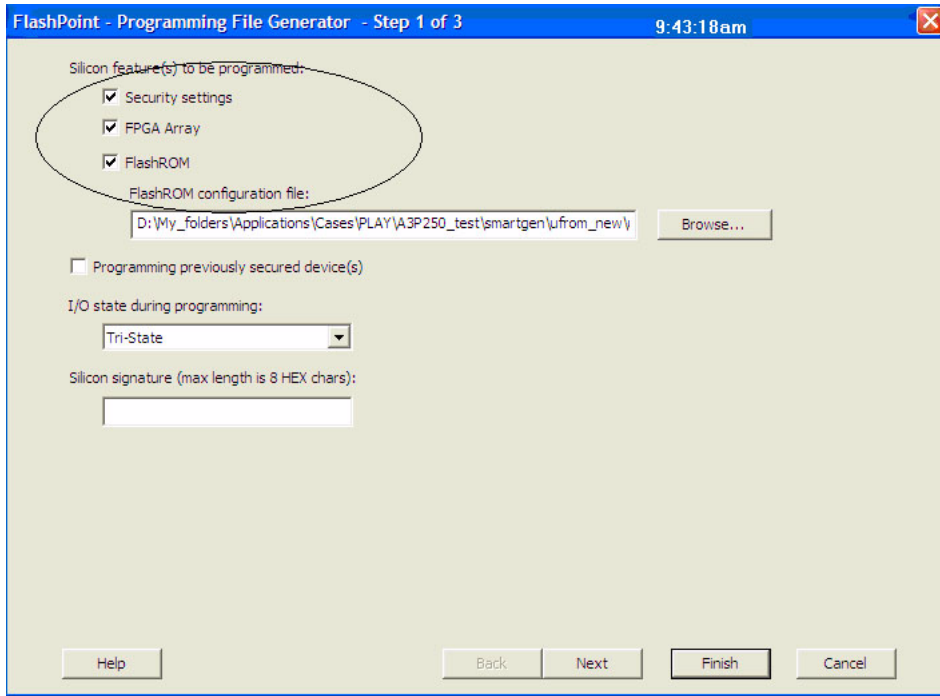
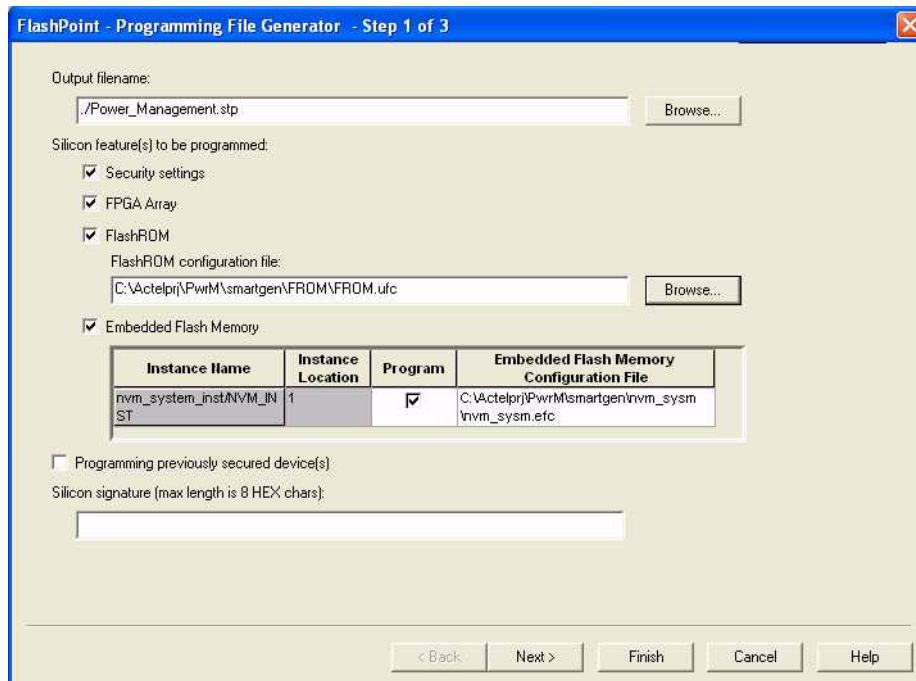

Figure 15-10 • All Silicon Features Selected for IGLOO and ProASIC3 Devices
Figure 15-11 • All Silicon Features Selected for Fusion
1. Select the **Silicon features to be programmed** (Security Settings, FPGA Array, FlashROM, Flash Memory Blocks), as shown in Figure 15-10 on page 15-14 and Figure 15-11 on page 15-14. Click **Next**.
Figure 15-10 on page 15-14 and Figure 15-11 on page 15-14 show the option **Programming previously secured device(s)**, which the user should select before proceeding. Upon going to the next step, the user will be notified that the same FlashLock Pass Key needs to be entered, as shown in Figure 15-19 on page 15-22.
It is important to note that when the security settings need to be updated, the user also needs to select the **Security settings** check box in Step 1, as shown in Figure 15-10 on page 15-14 and Figure 15-11 on page 15-14, to modify the security settings. The user must consider the following: